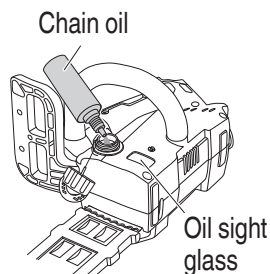

Fig. 18
- This unit is delivered without chain oil inside. Ensure the oil tank is filled with the chain oil provided before use. **(Fig. 18)**